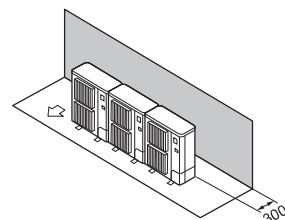

Fig. 2-13
- ① Obstacles at rear only (Fig. 2-13)